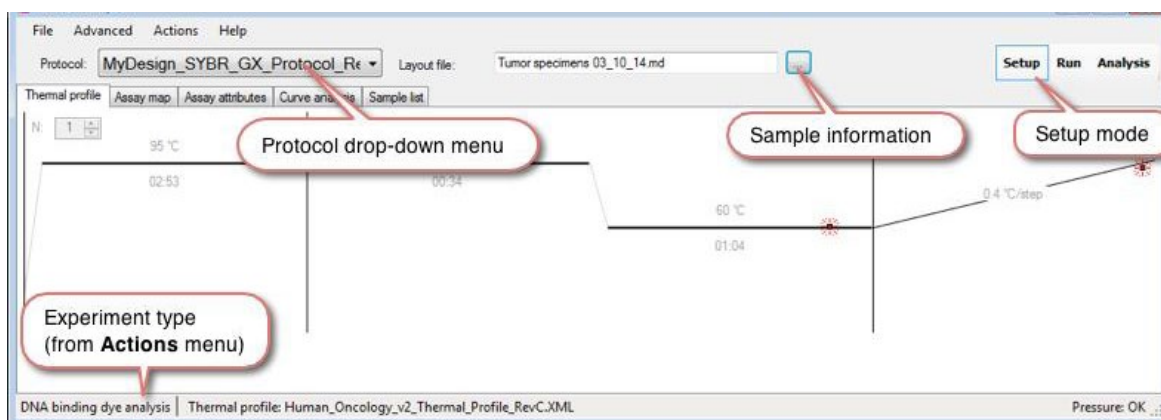

Figure 9. Selecting the appropriate protocol for your chip.
3. In the drop-down menu labeled **Protocol** in the top left corner, select the appropriate protocol for your chip (see Figure 9):